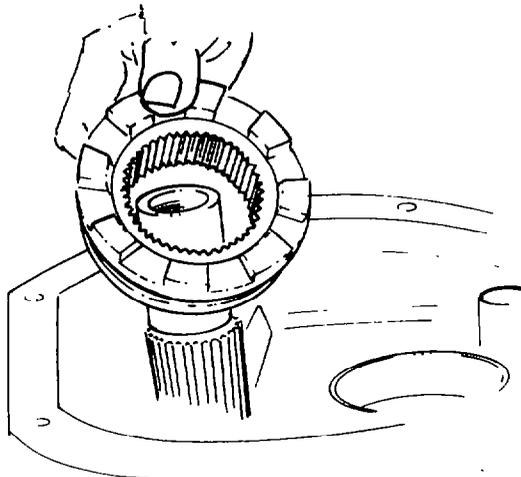

Fig. 224 — Removing Sliding Clutch
- k. Remove the front drive sliding clutch from the front drive shaft (see fig. 224).